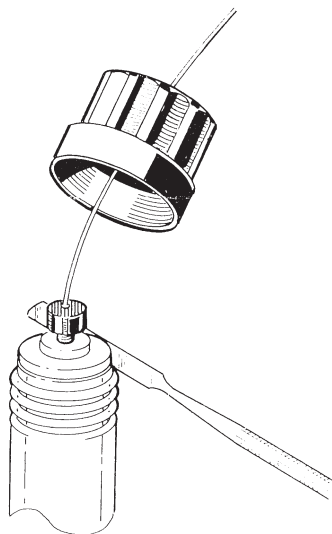

Fig. 1
1. Unscrew the connector (4).
2. Pull off the protective jacket (2).
3. Unscrew the outer end piece (1).
4. Take out the inner end piece (3). If the inner end piece is difficult to remove, you can pry up the edge carefully with a spatula (see Fig. 1).